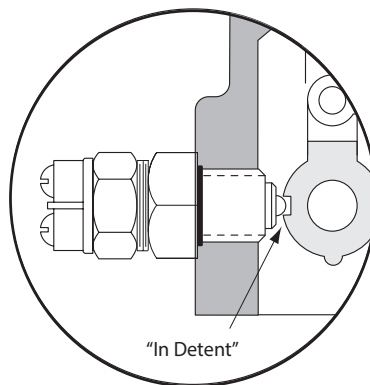
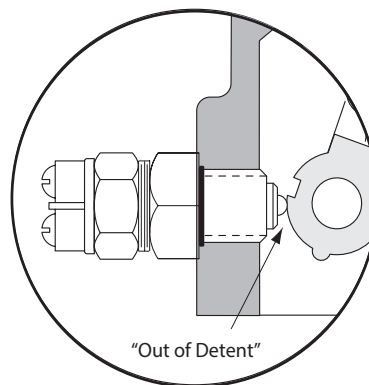

Figure 3-1
Figure 3-2
- (a). First apply a high temperature water resistant grease to the threads. Screw the switch in slowly, while moving the hydraulic control arm back and forth, until "detent" action is detected in the arm movement. See figure 3-1. Back out the switch until the "detent" action is very slight. Then position the arm out of the detent position. See figure 3-2.